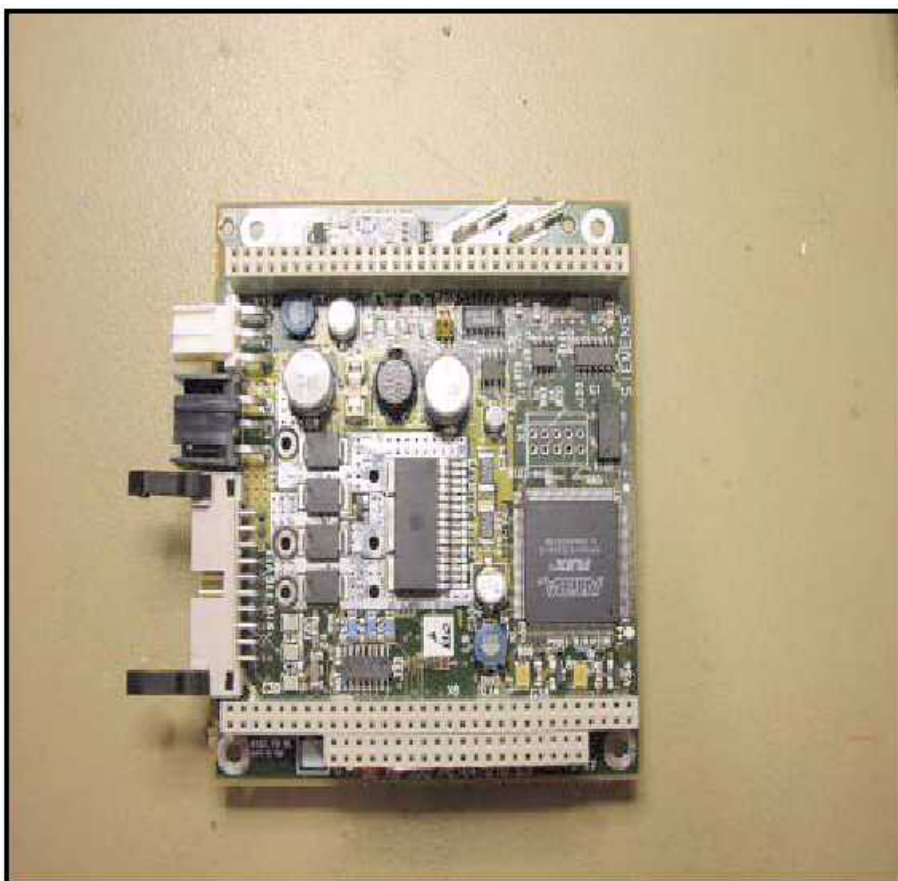

Fig. 19: PC board D10
- D10 is inserted into PC board D200 (Fig. 19 / p. 28).